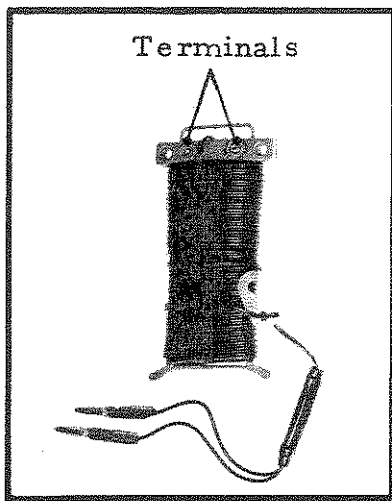

FIG 5
14. Antenna Feeder Assembly, 70 Ohm. (Fig 5). This assembly and two half dipoles (Antenna, AS-F2) form a dipole antenna. The assembly consists of a wire frame on to which is wound a length of twin down (feeder) lead. The two terminals carried on an insulating bar at the top of the frame are provided for connection of the free end of each half dipole.